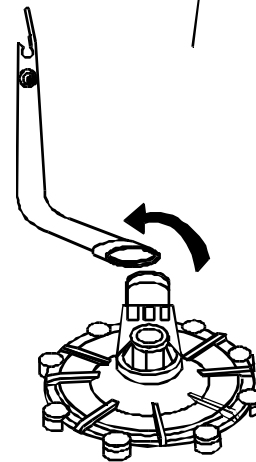

Fig. 3-7
4. Rotate the lower end of the tube either left or right off the pump nozzle. (Fig. 3-7)